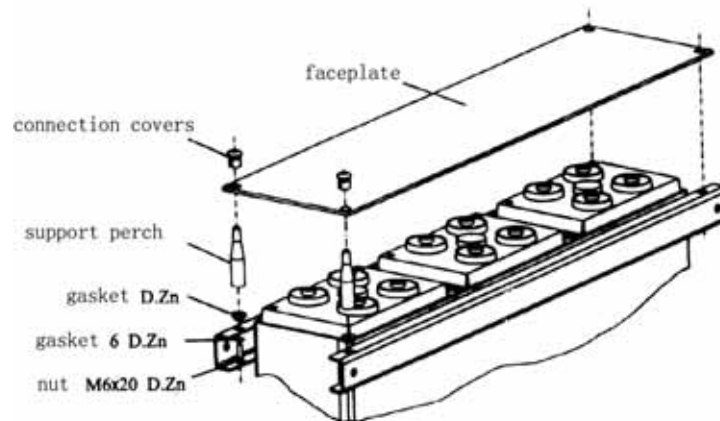

Fig 6
2.8 Installing battery front panel(Fig 6)